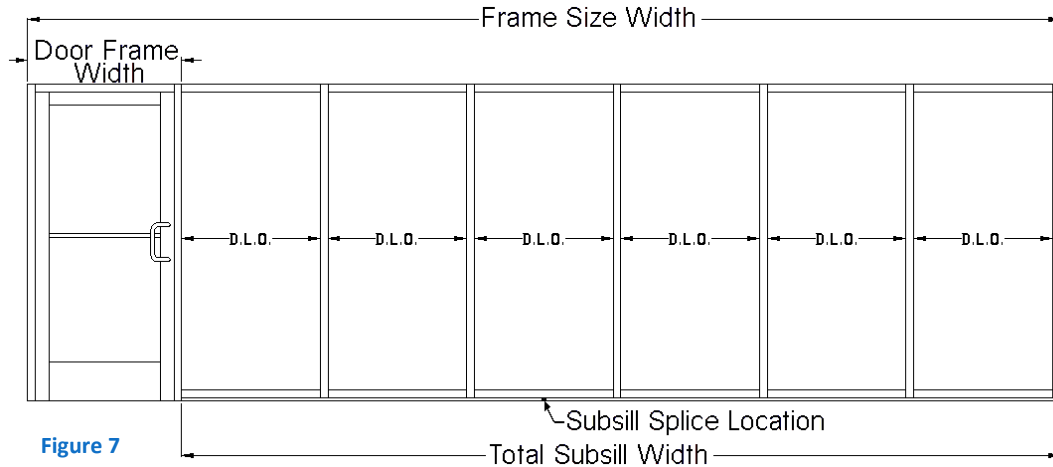

Figure 7
3. Splice joint locations should never correspond to vertical mullion locations in the frames. Splice joints should correspond as close as possible to the center of a D.L.O. (Daylight Openings) located in the frame. Splice joint should also be located as close as practical to the center of the opening. See figure 7.